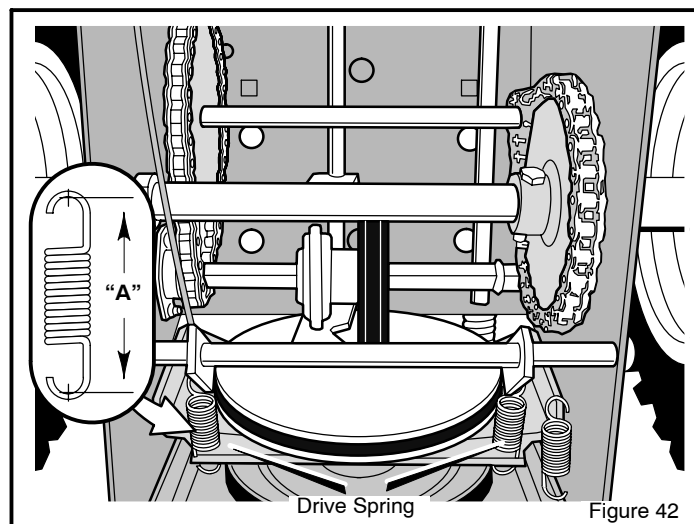

Figure 42
9. To check the adjustment, depress the drive lever and check the length of the **drive spring** (see Figure 42). In correct adjustment, the length of the **drive spring** is